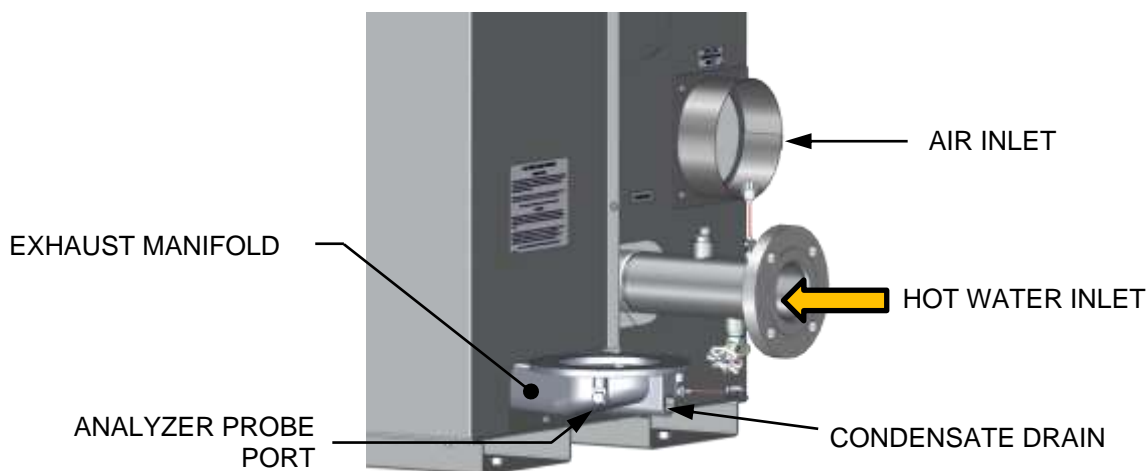

Figure 4-2: Analyzer Probe Port Location – BMK750 & 1000 Shown
Benchmark units contain a 1/4" NPT port on the side of the exhaust manifold, as shown in Figure 4-2. Prepare the port for the combustion analyzer probe as follows:
1. Refer to Figure 4-2 and remove the 1/4" NPT plug from the exhaust manifold.